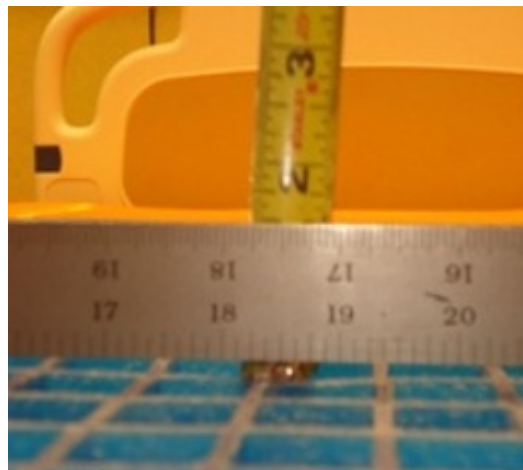

Figure 4: Measure maximum depth
6. Using a tape measure, measure the maximum depth (lowest point) from the bottom of the straight edge to the top of the foam (Figure 4 on page 16).